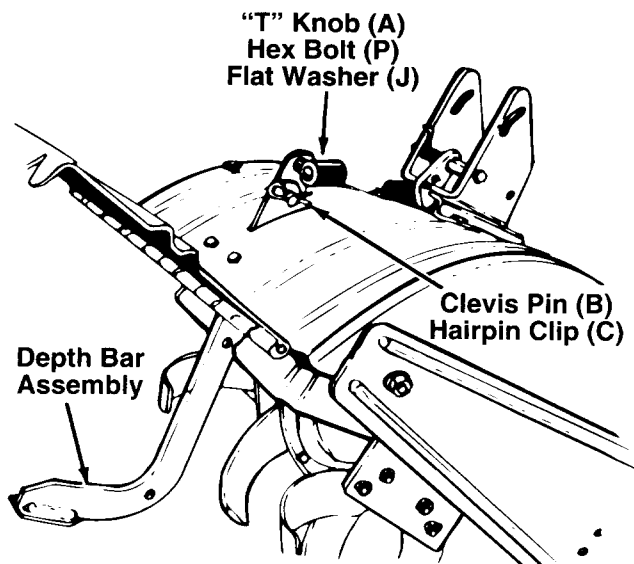
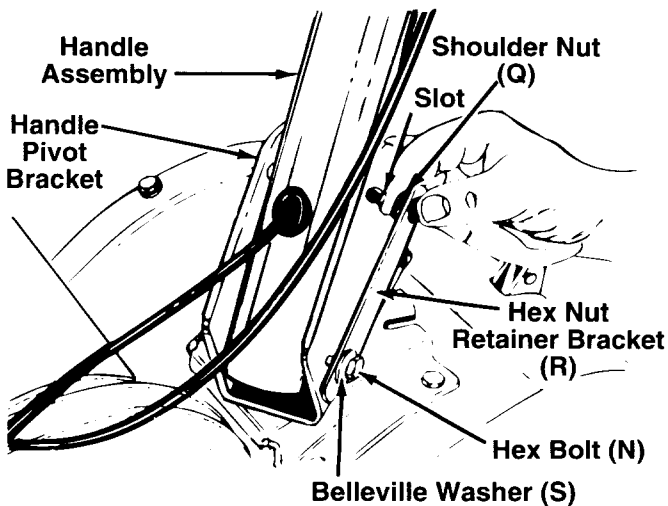

FIGURE 3.
FIGURE 4.
4. Tip the tiller forward so it rests on front counterweight. See figure 3.
5. Raise the tine shield hinge flap assembly. Insert the depth bar assembly between the two shoulder bolts and up through the tine shield assembly as shown in figure 3.
6. Insert clevis pin (B) through the tine shield and depth bar assemblies. Secure with hairpin clip (C). See figure 3.
7. Insert hex bolt (P) into the upper hole of the depth bar assembly. Place flat washer (J) onto the hex bolt and thread small "T" knob (A) onto the hex bolt. See figure 3. Tighten securely.
9. Place belleville washer (S) onto hex bolt (N) (crown side of washer goes against the bolt). Place hex nut retainer bracket (R) on hex bolt (N), using the round hole in retainer bracket.
10. Place handle assembly in position in the handle pivot bracket. Line up the holes in handle assembly with the holes (and slots) in the pivot bracket. See figure 4.
11. Insert hex bolt (with washer and hex nut retainer attached) through the bottom holes on the handle pivot bracket and handle assembly. Head of the hex bolt should be to the left hand side of the unit. See figure 4.
12. Place shoulder nut (Q) between hex nut retainer bracket and pivot bracket. See figure 4.